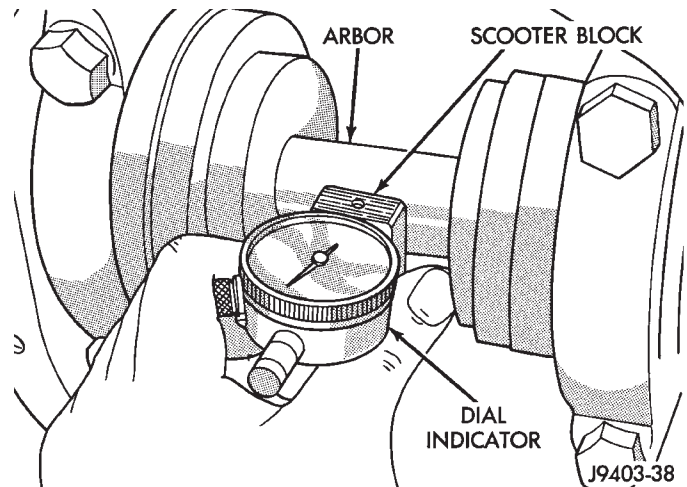

Fig. 69 Pinion Gear Depth Measurement—Typical
(5) Assemble Dial Indicator C-3339 into Scooter Block D-115-2 and secure set screw.
(6) Place Scooter Block/Dial Indicator in position in axle housing so dial probe and scooter block are flush against the surface of the pinion height block. Hold scooter block in place and zero the dial indicator face to the pointer. Tighten dial indicator face lock screw.
(7) With scooter block still in position against the pinion height block, slowly slide the dial indicator probe over the edge of the pinion height block. Observe how many revolutions counterclockwise the dial pointer travels (approximately 0.125 in.) to the out-stop of the dial indicator.
(8) Slide the dial indicator probe across the gap between the pinion height block and the arbor bar with the scooter block against the pinion height block (Fig. 69). When the dial probe contacts the arbor bar, the dial pointer will turn clockwise. Bring dial pointer back to zero against the arbor bar, do not turn dial face. Continue moving the dial probe to the